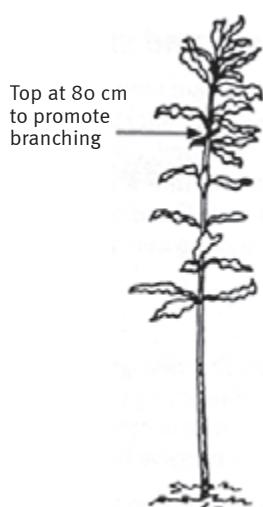

Figure 13. Pruning action where there are no lateral branches below 80 cm
1. Where a tree has produced a central leader without any branches below a height of 80 cm, prune off the top of the tree at 80 cm (Figure 13).
figures 13 to 17)*